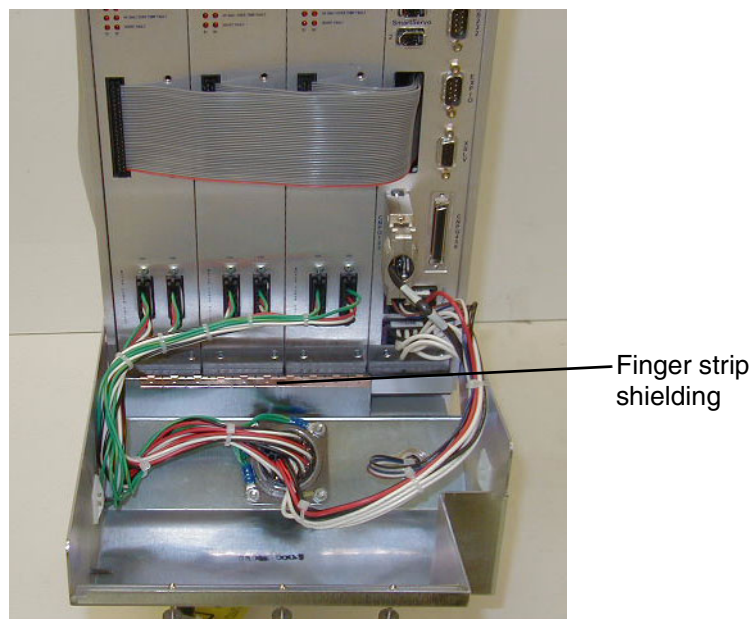

Figure 3-8. PA-4 with Interface Box Tilted Open
3. Lift the Interface Box up slightly, and tilt it down. Be careful to avoid loosening the copper-colored finger strip shielding. See Figure 3-8.